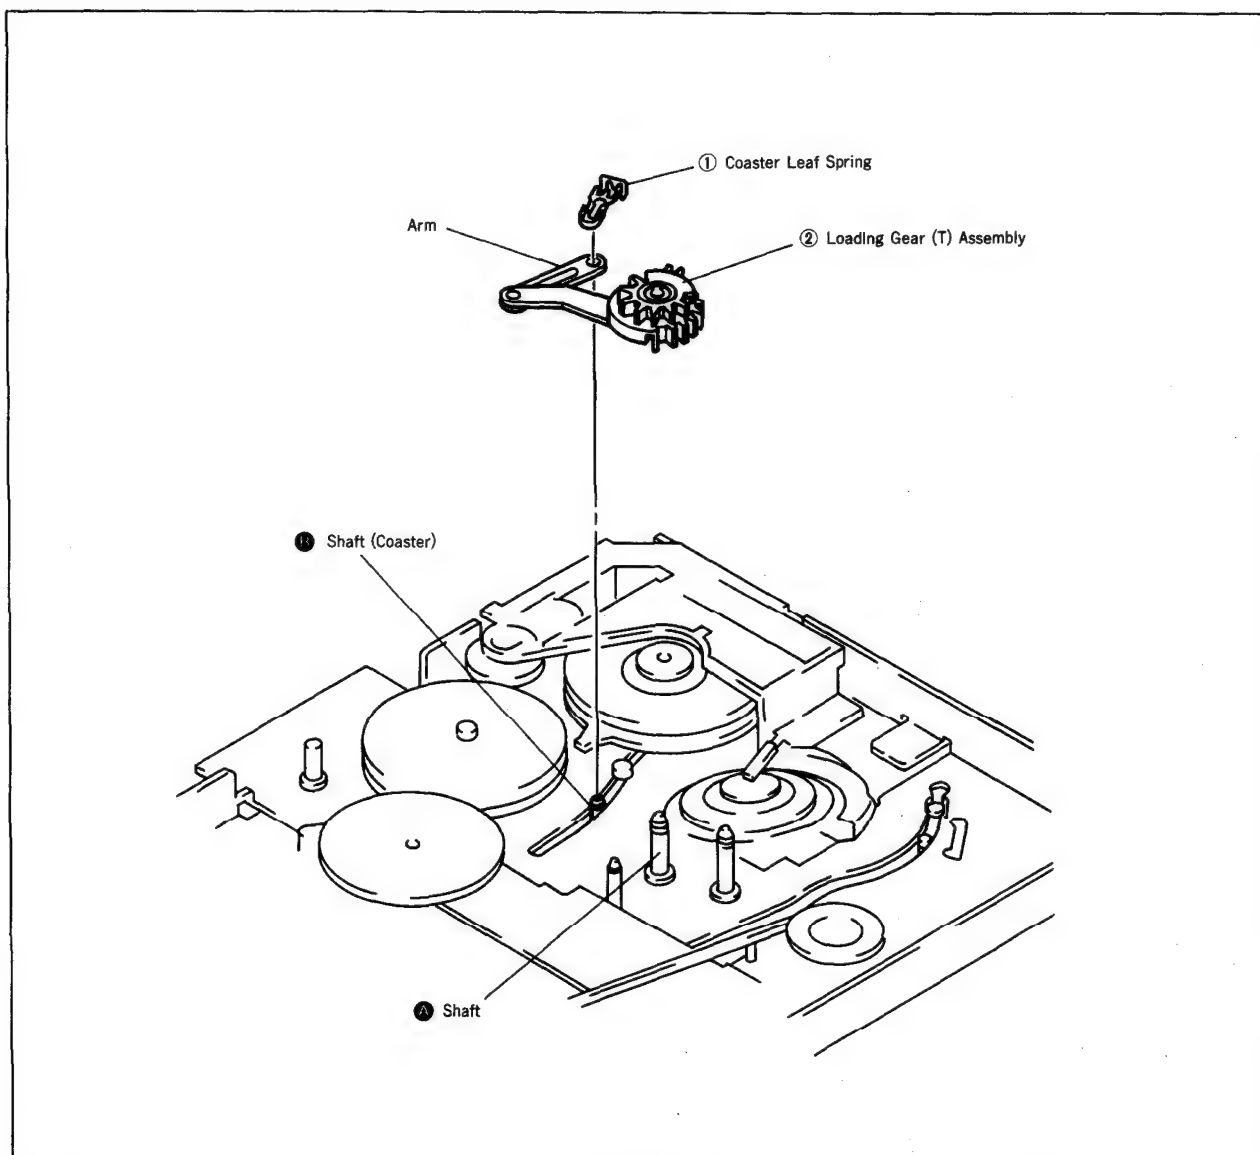

Fig. 25
4-19. LOADING GEAR (T) ASSEMBLY (Fig. 25)